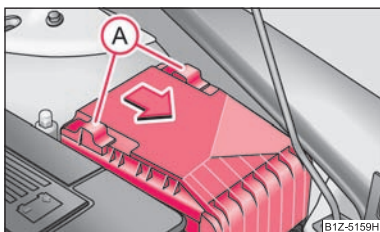

Fig. 144 Fuse cover in engine compartment
- Move the circlips **A** ⇒ fig. 144 as far as the stop, the symbol  appears behind the circlip and remove the cover.